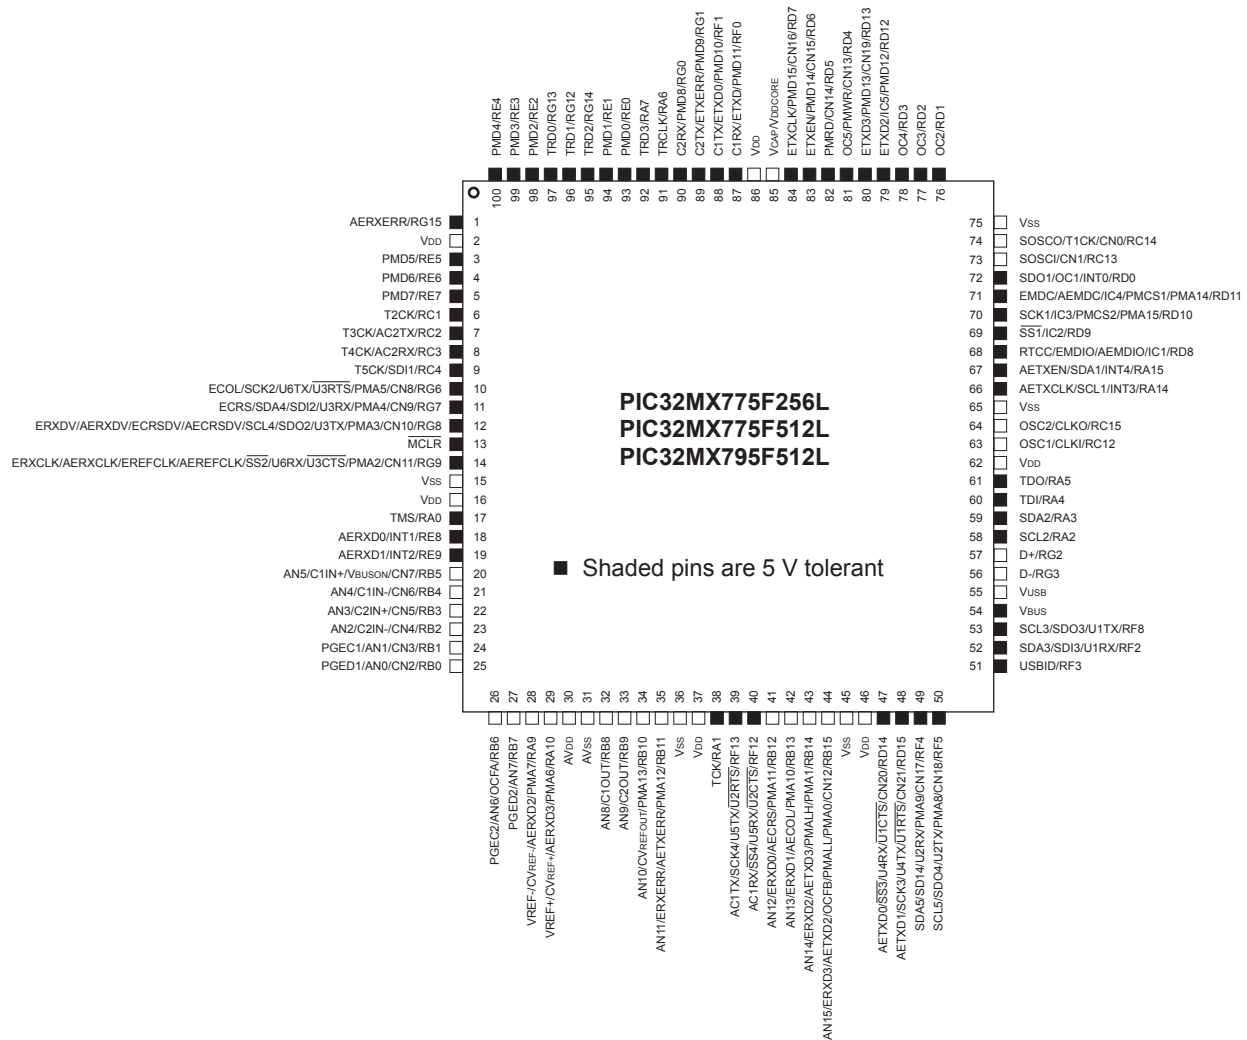

Figure 2.1: The pinout of the PIC32MX795F512L used on the NU32.
To cram so much functionality into only 100 pins, many pins serve multiple functions. See the pinout diagram for the PIC32MX795F512L (Figure 2.1). As an example, pin 21 can be an analog input, a comparator input, a change notification input (which can generate an interrupt when an input changes state), or a digital input or output.
For example, pin 78 in Figure 2.1 can serve as OC4 (output compare 4) or RD3 (digital I/O number 3 on port D). Let's say we want to use it as a digital output. We can modify the SFRs that control this pin to disable the OC4 function and to choose the RD3 function as digital output instead of digital input. The PIC32MX5xx/6xx/7xx Data Sheet explains the memory addresses and meanings of the SFRs. Be careful, because it includes information for many different PIC32 models. Looking at the data sheet section on Output Compare reveals that the 32-bit SFR named "OC4CON" determines whether OC4 is enabled. Specifically, for bits numbered 0 . . . 31, we see that bit 15 is responsible for enabling or disabling OC4. We refer to this bit as OC4CON<15>. If it is cleared (0), OC4 is disabled, and if it is set (1), OC4 is enabled. So we clear this bit to 0. (Bits can be "cleared to 0" or simply "cleared," or "set to 1" or simply "set.") Now, referring to the I/O Ports section of the Data Sheet, we see that the input/output direction of Port D is controlled by the SFR TRISD, and bits 0-15 correspond to RD0-15. Bit 3 of the SFR TRISD, i.e., TRISD<3>, should be cleared to 0 to make RD3 (pin 78) a digital output.
**Digital Input and Output** A digital I/O pin configured as an input can be used to detect whether the input voltage is low or high. On the NU32, the PIC32 is powered by 3.3 V, so voltages close to 0 V are considered low and those close to 3.3 V are considered high. Some input pins can tolerate up to 5.5 V, while voltages over 3.3 V on other pins could damage the PIC32 (see Figure 2.1 for the pins that can tolerate 5.5 V).